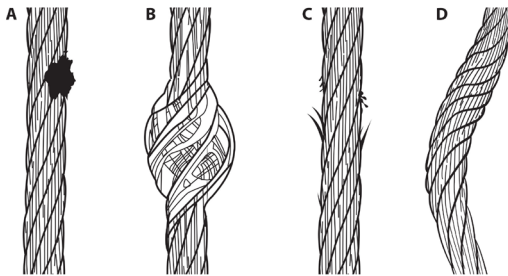

Figure 9: Inspection of Cable
Inspect the entire length of the constituent line up. Review the cable lifeline closely for broken strand wires, welding spatter burns, welding slag, bird caging, kinks and bent strands. Also examine for rust, dirt, paint, grease or oil. Check for damage caused by chemical corrosion or excessive heat as evident with discoloration. See Figure 9 for examples. If any of these conditions exist, remove the SRD from service.
Extract all of the cable and check the entire working length for damage caused by chemical corrosion or excessive heat as evident by discoloration (A), bird caging (B), broken wire strands (C), kinks and bent strands (D), see Figure 9. The cable should retract completely without faltering and should remain taut under tension without sagging.